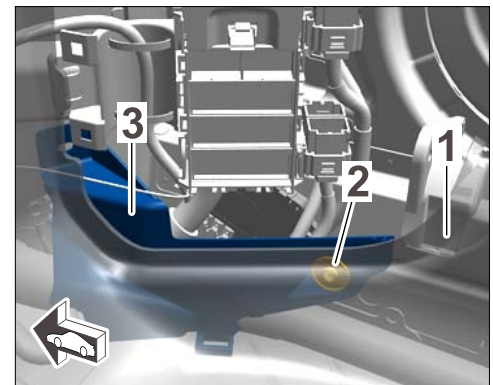

Figure 20
5.1 Screw on fastening nut ⇒ *Figure 20 -2-* on the wire harness cover ⇒ *Figure 20 -3-* at the right.